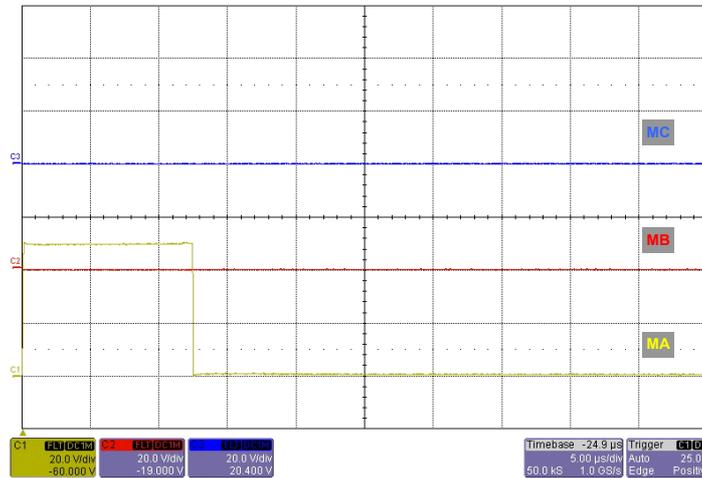

Figure 4. Waveforms on MA, MB, and MC with HA Grounded
- While the HA input is grounded, observe the following waveforms in Figure 4, on the MA, MB, and MC terminals.